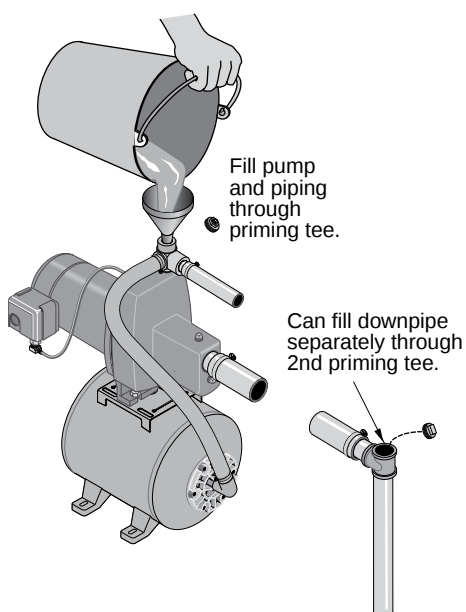

Figure 6: Prime the Pump
1. Remove the priming plug from the pump and fill the pump, fill all piping between the pump and the well, and make sure that all piping in the well is full (Figure 6). If you have also installed a priming tee in the suction piping, remove the plug from the tee and fill the suction piping.